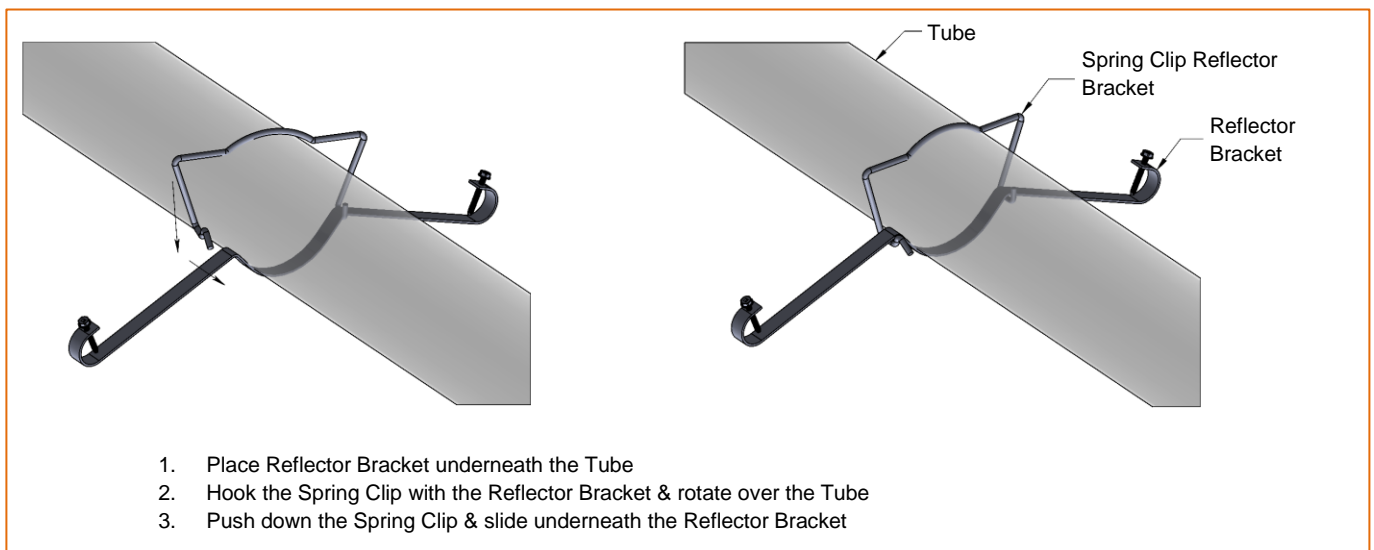

Figure 14: Reflector Support Bracket Installation
- Install reflector support brackets, one at each reflector overlap position, and one in the middle of each 10' reflector length. Figure 14 shows the installation of the reflector support bracket.